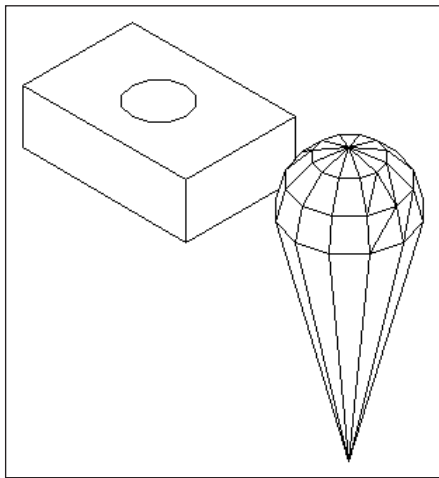

Figure 24-8: The four solids
11. Save your drawing. It should look like Figure 24-8.